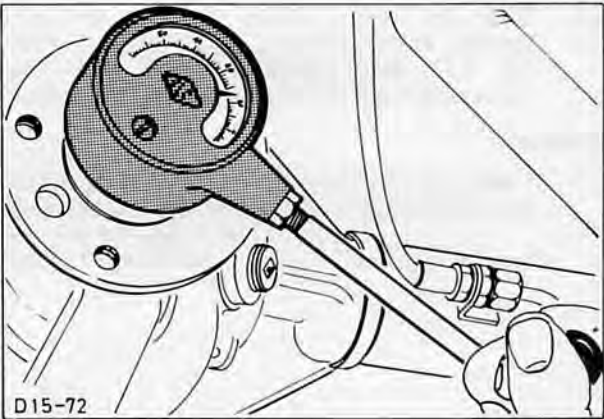

Fig. 130. Check running torque of axle at drive pinion with special tool no. 15-041
3. Measure drive pinion running torque with pre-load gauge, Fig. 130. Turn drive pinion smoothly and read off value and note it down, e.g. 0,8 Nm (8 cmkp).